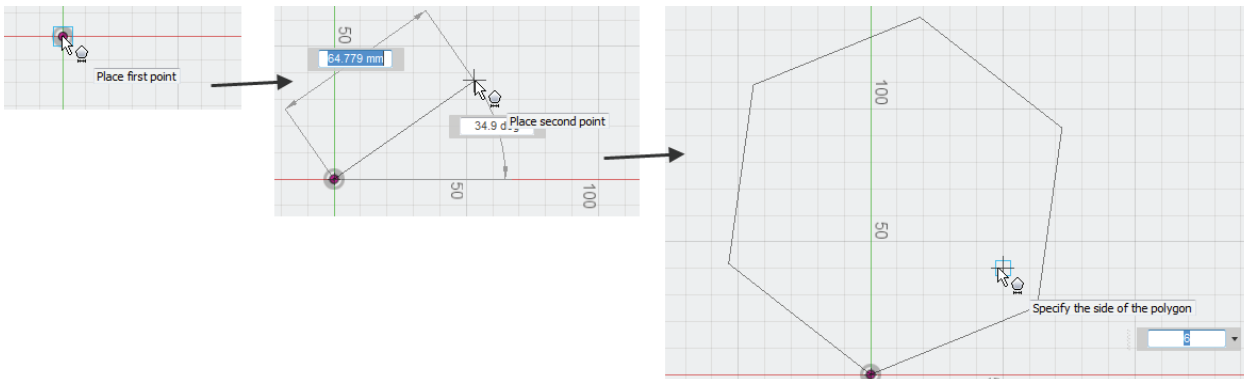

Figure-26. Creation of edge polygon
- Click on the screen to select the start point and end point of edge. You can also specify the value of angle and distance of the edge in dynamic input boxes; refer to Figure-26.